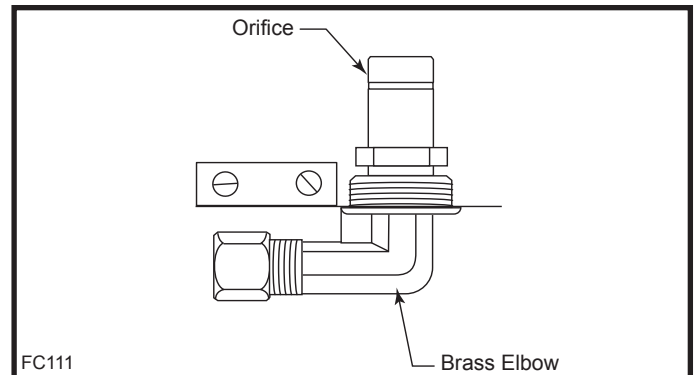

Fig. 70 Remove orifice from brass elbow.
7. Remove the orifice from the brass elbow. Use a 9/16" open end wrench to hold the elbow while using the 1/2" wrench to remove the orifice. (Fig. 70)